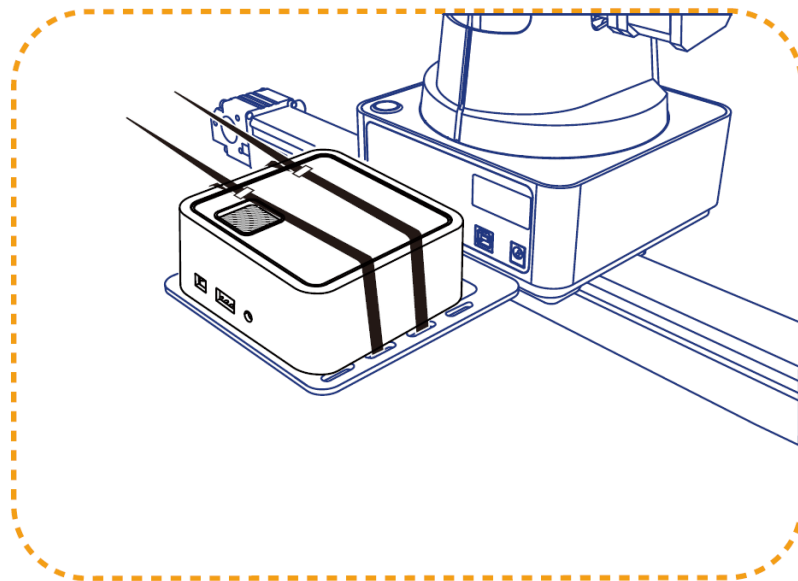

Figure 1.6 Fix air pump
2. Fix the air pump on the plate **c**, as shown in Figure 1.6. And connect the air pump to Dobot Magician, as shown in Figure 1.7.